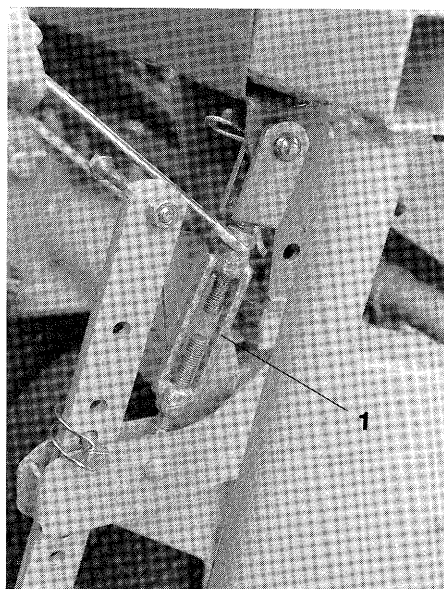

Fig. 22
-  Fix the front of the drill by 2 turnbuckles (Fig. 22/1) to the tyre packer roller.